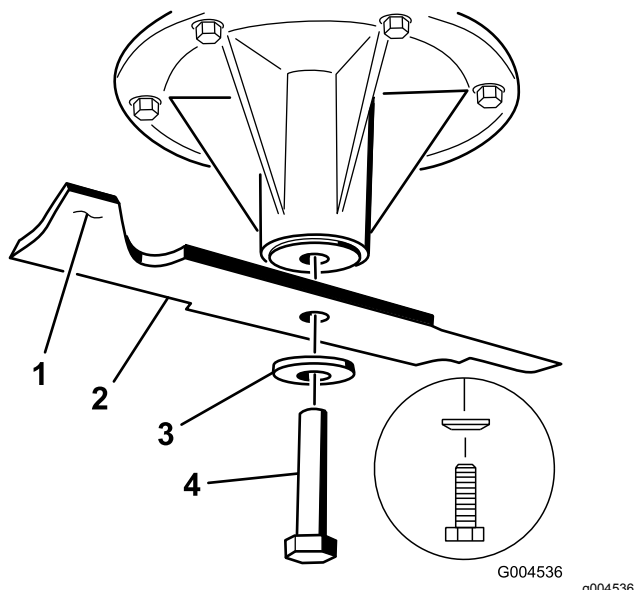

Figure 105
1. Install the blade onto the spindle shaft (Figure 105).
2. Install the spring disk and blade bolt (Figure 105).
Note: The spring-disk cone must be installed toward the bolt head (Figure 105).